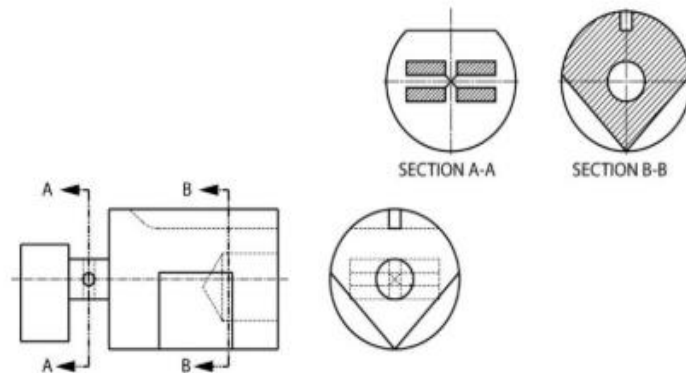

Fig. 2.43: Removed Section
- **Removed Section:** A section is drawn separately from the main drawing for clarity (Fig. 2.43).